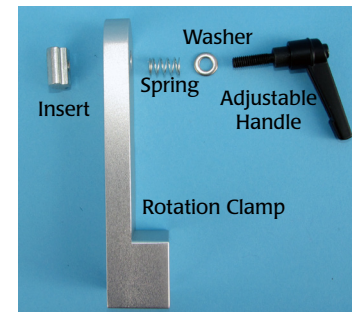

Fig. 2—Rotation clamp and handle disassembled
- Disassemble the rotation clamp assembly by rotating the handle counter clockwise. Remove the insert (Fig. 2).